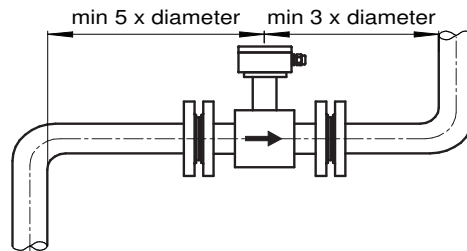

Figure 2.2
2. Pipe adjacent to the FM100 must be straight, without fittings or bends) for at least 5 times the diameter of the sensor upstream and 3 times the diameter of the sensor downstream (see Figure 2.2).